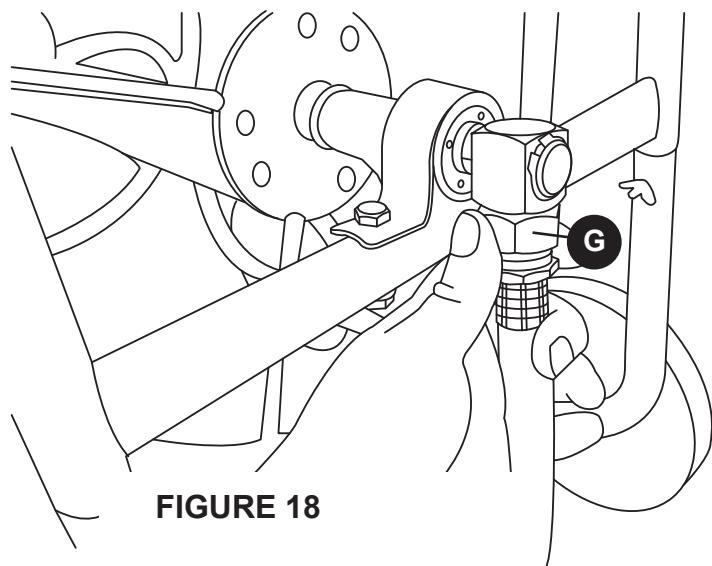

FIGURE 18
18. Attach the Leader Hose (G) to the end of the brass swivel. **DO NOT OVER TIGHTEN.** See Figure 18